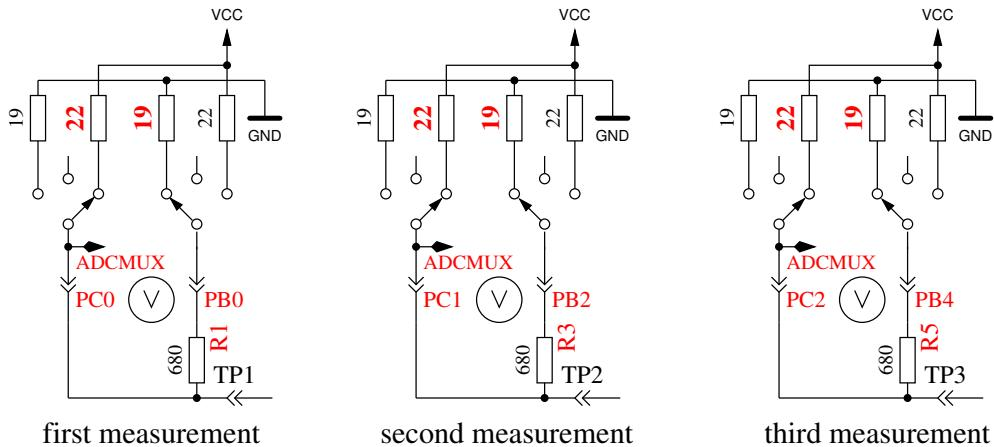

Figure 5.48: Measurement of internal resistance of Port C switched to VCC
9. **Measuring of internal resistance of port outputs switched to the VCC (+)signal.** The needed current is generated with to GND connected 680Ω resistors . It are the same measurements as those in test 8 to the other side as you can see in Figure 5.48. With the following steps the resistance is computed: To get the current, the following is computed: $(VCC - (resultoftest8) - (resultoftest9))/680$. To get both resistor values, the voltage (result of test 8 or 9) is divided by this current. The result for this test will then be notified in row 1 with the text ”RI_Hi=”, the resistance value (Ω) to the GND side is displayed in row 2 with the text ”RI_Lo=”. Beginning with version 1.06k of the software, the port output resistance